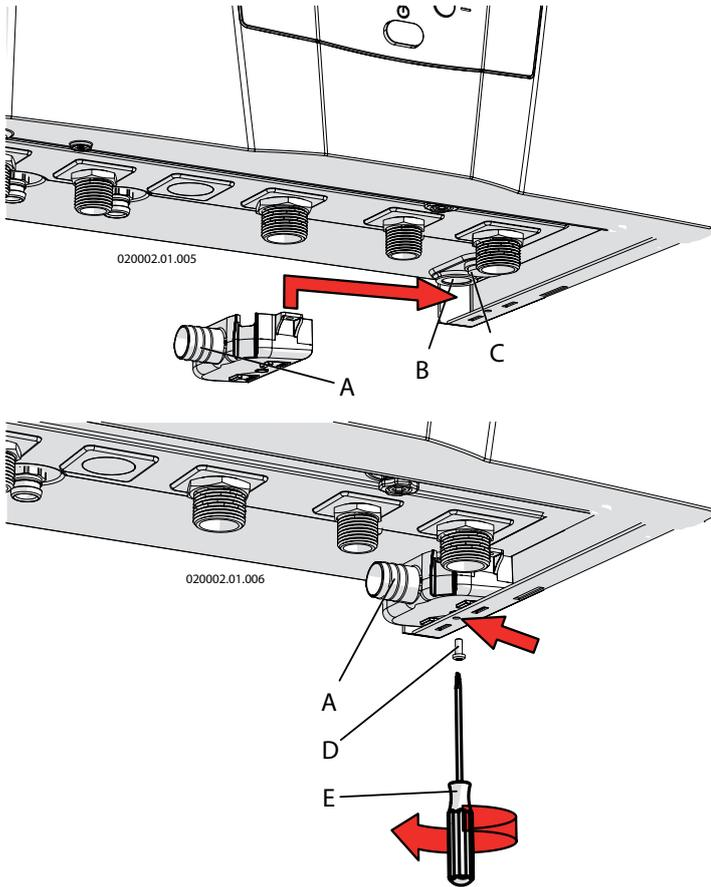
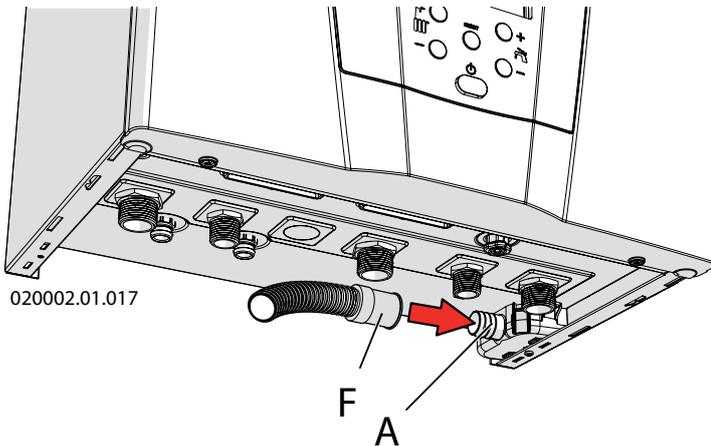
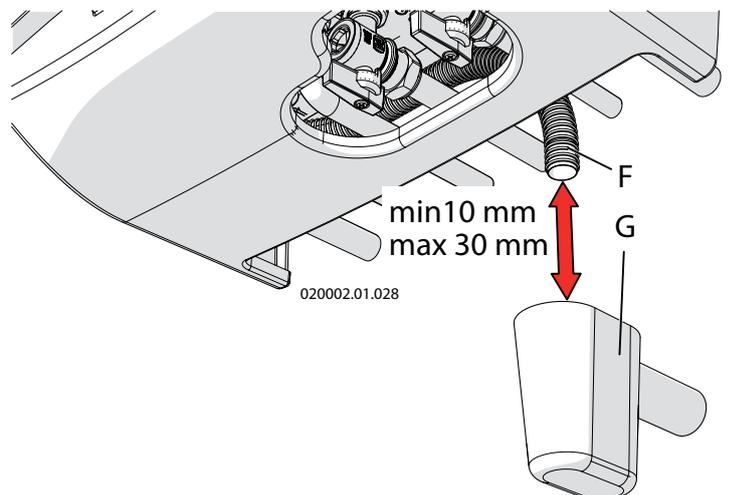

Figure 5.4 - Safety valve drain and condensate drain connection
Figure 5.5 - Condensate drain pipe
Figure 5.8 - Siphon funnel (on request)
There is a siphon inside the appliance for the evacuation of condensate (see figure 3.1 detail "40") and to prevent combustion products from escaping, whose end corresponds to the pipe "B" in figure 5.4. This termination must be conveyed into an anti-odour siphon (figure 5.8 detail "G") to prevent bad odours returning into the environment (the anti-odour siphon "G" is supplied on request). The tank "A" is mounted in the factory as indicated in figure 5.4, the exhaust pipe "F" is mounted in the factory as indicated in figure 5.5. In particular, the condensate disposal plant must:
- ☞ for room used for residential purposes and for office with more than 10 users, it can be connected to the domestic waste disposal plant by means of appropriate siphon with disjunction capable of preventing the pressurisation of the system (siphon prepared within appliance) and to prevent the return of bad odours from the sewer (detail "G" in figure 5.8). If the room used for office purposes has less than 10 users, before connection with the domestic waste drain, a condensate neutraliser is good practice (see chapter 9 for the value of acidity of the condensate and the quantities).
The appliance is protected against overpressures by a safety valve calibrated to 10 bar (see figure 3.1 detail "28"). The safety valve drain (detail "C" in figure 5.4), along with the condensate drain (detail "B" in figure 5.4) must be conveyed to a pipe "F" (see figure 5.5) with minimum internal diameter of 13 mm. The pipe "F" must be then taken to the anti-odour siphon (detail "G" figure 5.8). This drain with siphon is used to prevent overpressures if the valve is opened and makes it possible for the user to check the eventual intervention. The pipe "F" in figure 5.5 is supplied by standard along with the tank "A" in figure 5.4. The anti-odour siphon "G" in figure 5.8 is provided on request.